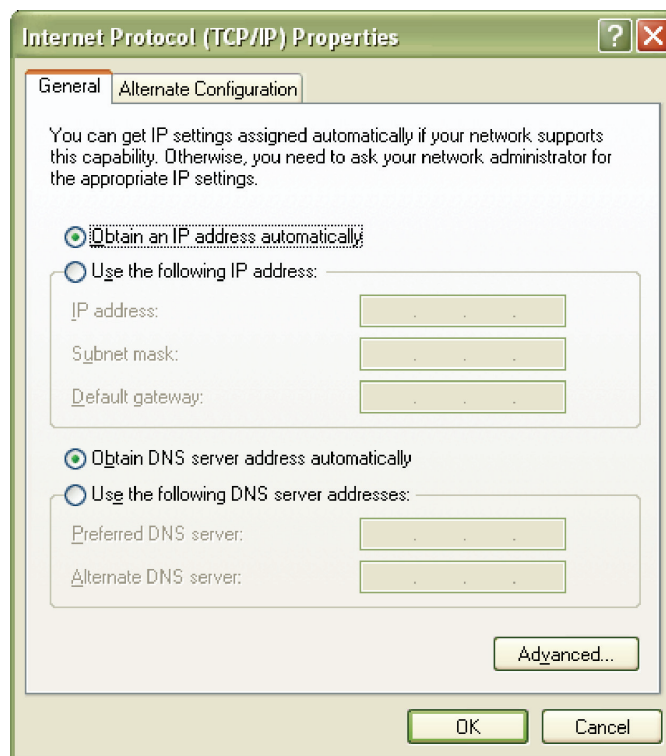

Fig. 28: The Internet Protocol (TCP/IP) Properties dialog box.
- In the Windows **Start** menu, select **Control Panel | Network Connections | Local Area Connection | Properties** dialog. Under **This computer uses the following items**, highlight **Internet Protocol TCP/IP**, then click **Properties**. This will open the **Internet Protocol Properties** dialog box as shown in Fig. 28.